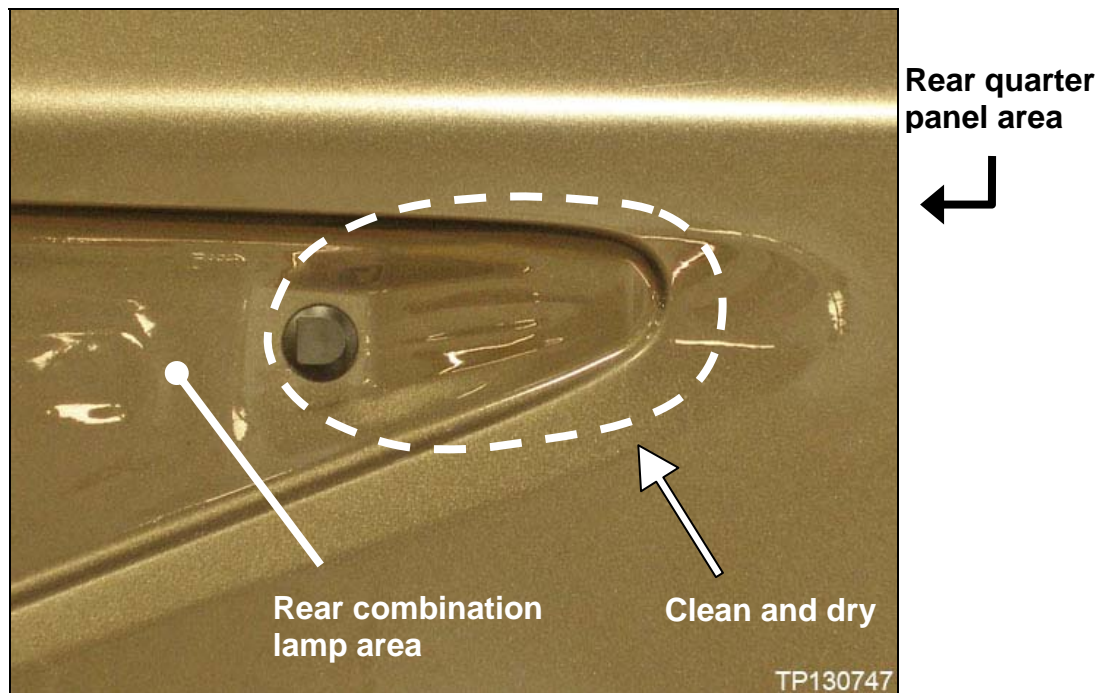

Figure 2
3. After the Refinish Half-Block Repairs are completed, make sure the area shown in Figure 2 is clean and dry.